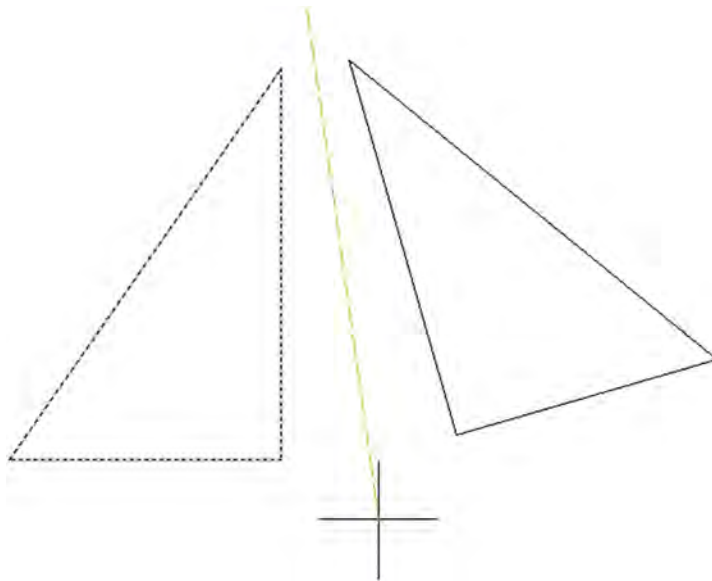

FIGURE 1.29
This command, much as the name implies, creates a mirror copy of an object over some plane. It is surprisingly useful because often just copying and rotating is not sufficient or takes too many steps. To learn this command, you have to think of a real-life mirror, with you standing in front of it. The original object is you, the plane is the door with the mirror attached (which can swing on a hinge), and the new object is your mirrored reflection. To practice this command, draw a triangle by joining three lines together, as seen in Figure 1.29.
Step 5. The response in Step 4 just asked you if you want to keep the original object. If you do (the most common response), then just press Enter and you are done. Figure 1.29 illustrates Step 3.